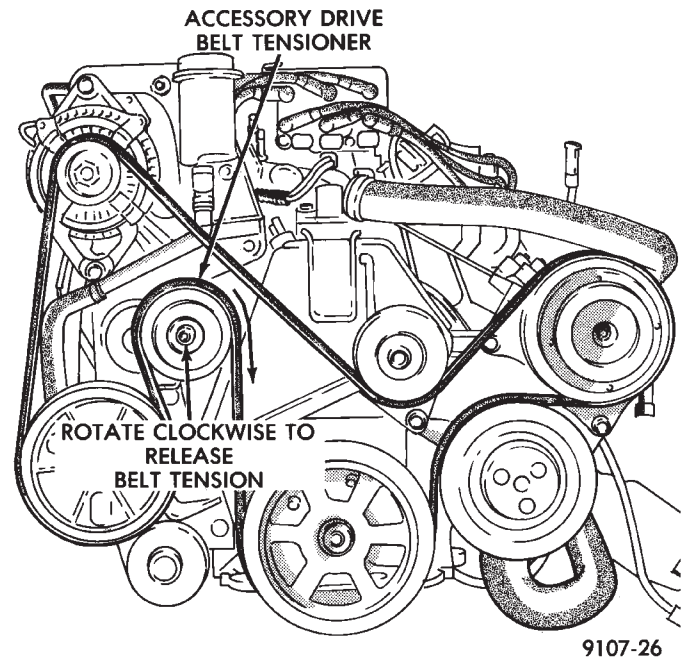

Fig. 6 Accessory Drive Belt—3.3L Engine
The Poly-V Drive belt is provided with a dynamic tensioner (Fig. 6) to maintain proper belt tension. To remove or install this belt.
- (1) Raise vehicle on hoist.
- (2) Remove right front splash shield.
- (3) Release tension by rotating the tensioner clockwise (Fig. 6).
- (4) Reverse above procedure to install.